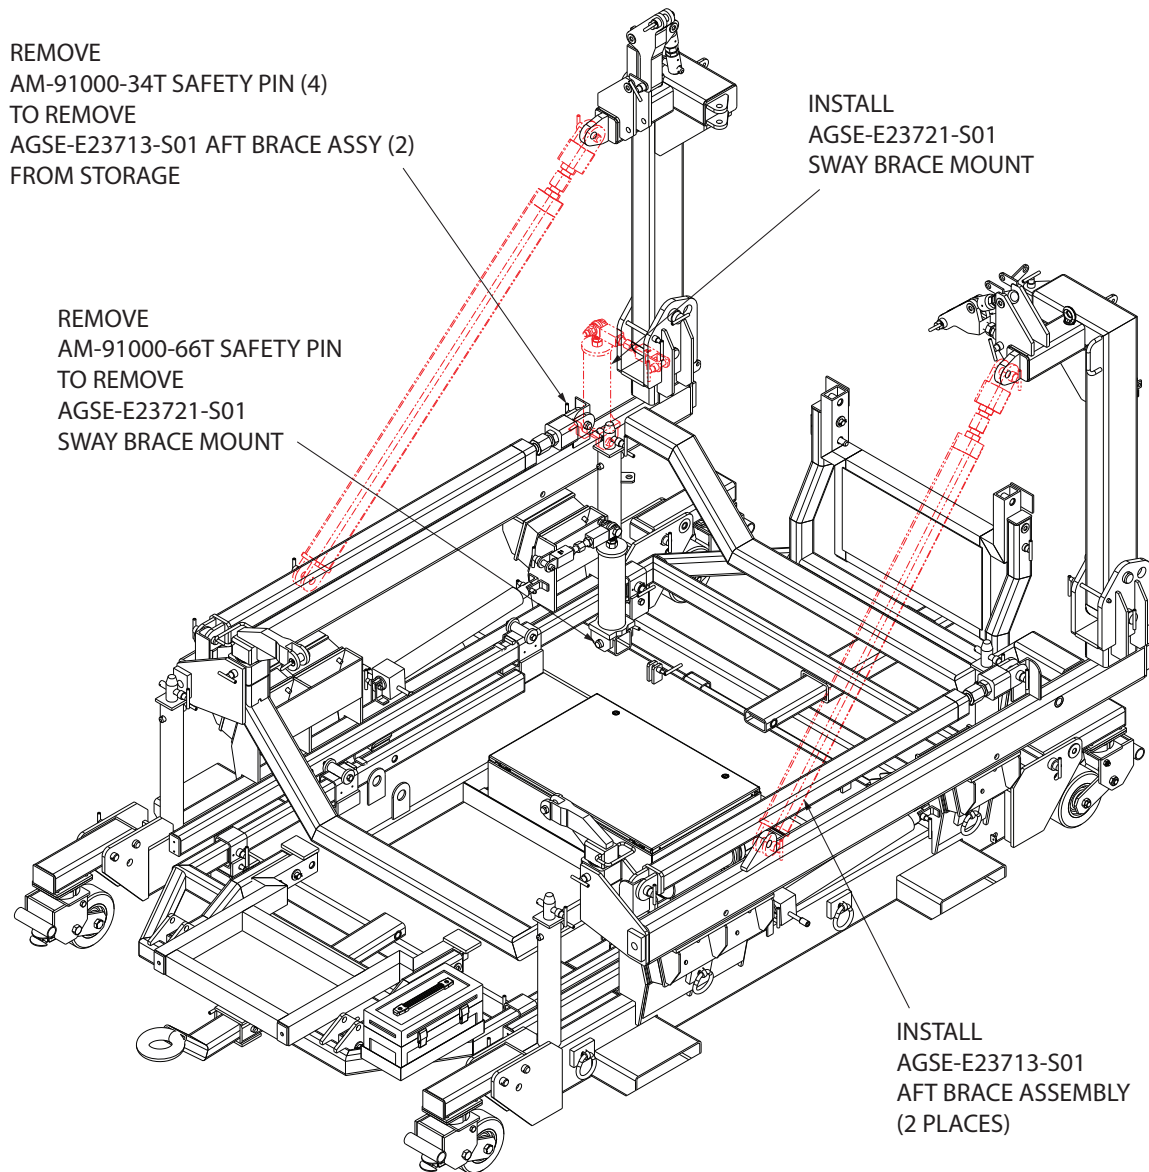

Figure 5.1-3
- 9) Remove AGSE-E23721-S01 sway brace mount (IPB Figure 2 - Item 8) from storage by removing AM-91000-66T safety pin (IPB Figure 8 - Item 6). Install the sway brace mount on the cradle as indicated in Illustration Figure 5.1-3.